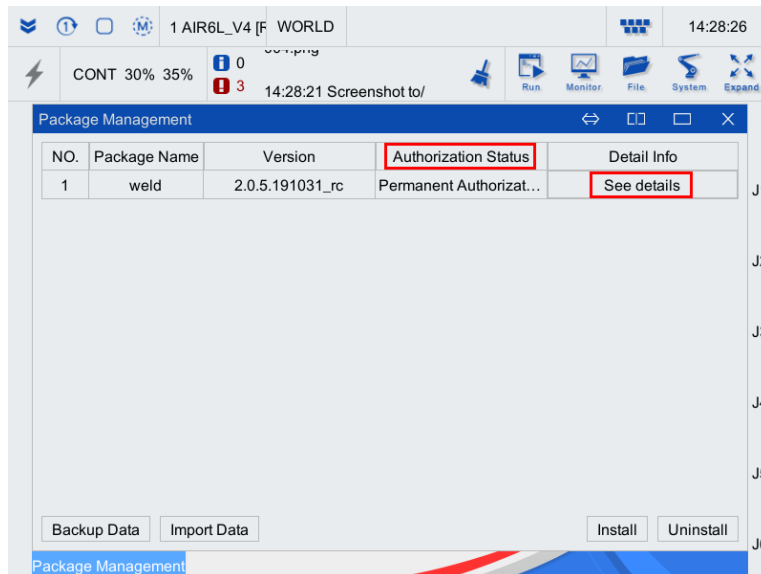

Fig. 3-15 "Feature Pack Management" interface
Step 2. Click "Package Management" to pop up the feature pack management interface, as shown in Fig. 3-15. Check the "Authorization Status" to determine whether the authorization is successful.